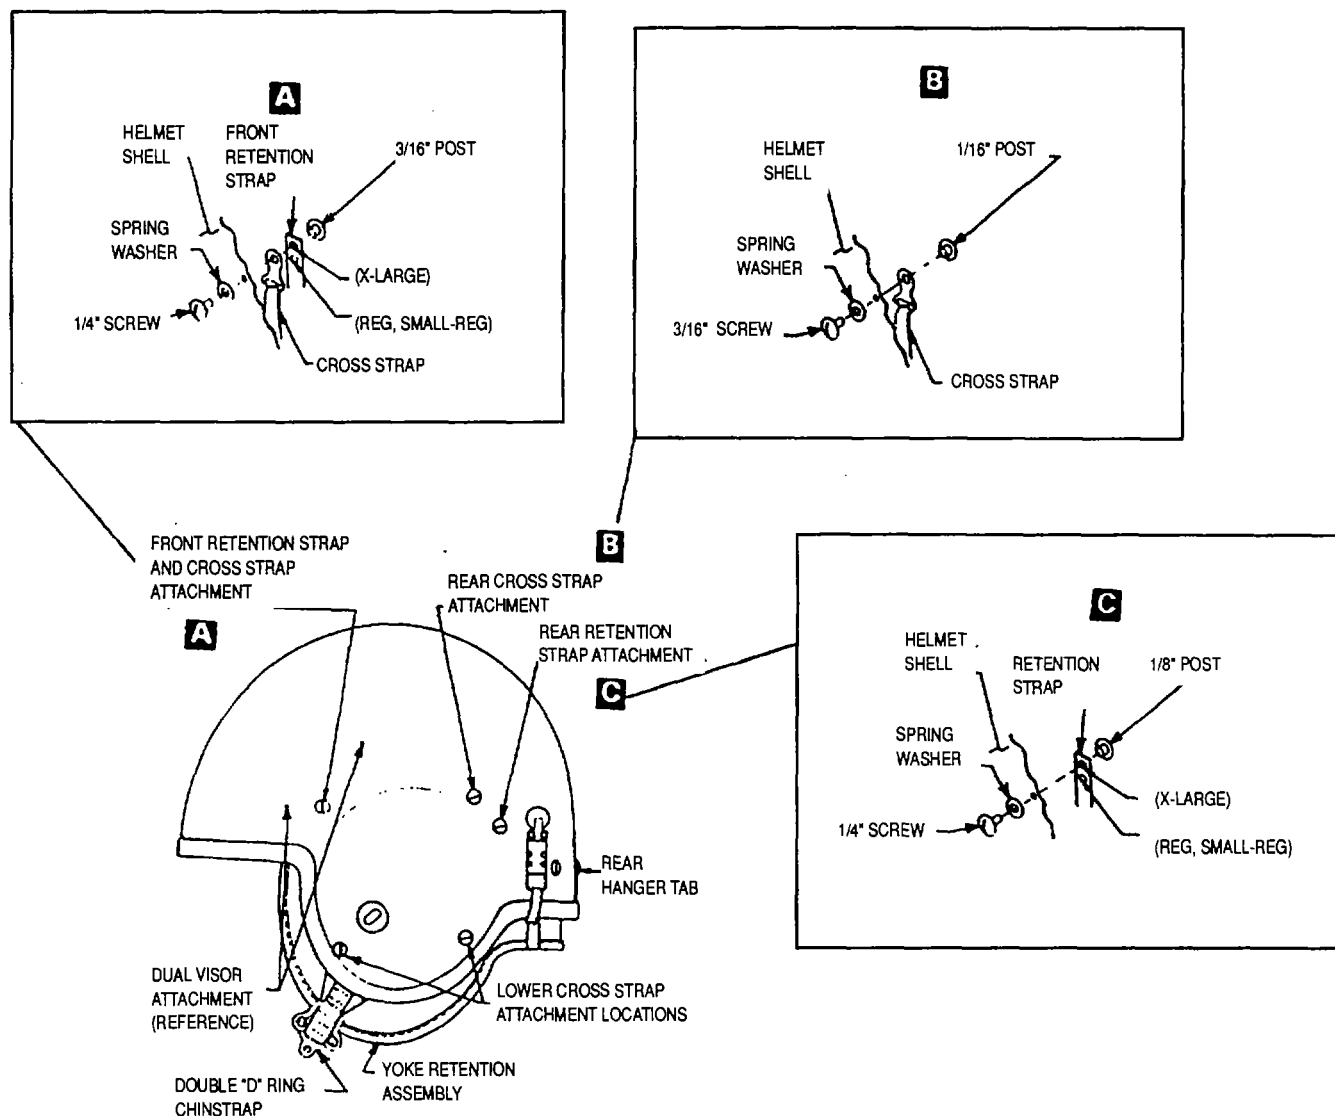

Figure 3-4. Retention Assembly Attachment Points
1. Attach retention assembly to helmet (see Figure 3-4) using screws, washers, and posts supplied. For the front retention strap/cross strap attachment (one place each side), secure using a 1/4" screw, a washer, and a 3/16" post (Figure 3-4, View A). For rear cross strap attachment (one place each side), secure using a 3/16" screw, a washer, and a 1/16" post (Figure 3-4, View B). For rear retention strap installation (one place, rear of helmet), secure using a 1/4" screw, a washer, and a 1/8" post (Figure 3-4, View C).